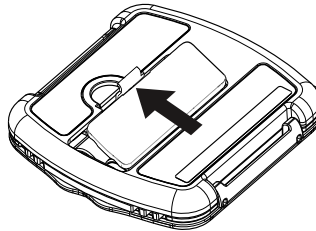

Figure 5. Replace battery cover.
4. Replace the battery compartment cover, then press the cover until it snaps into place (Figure 5).